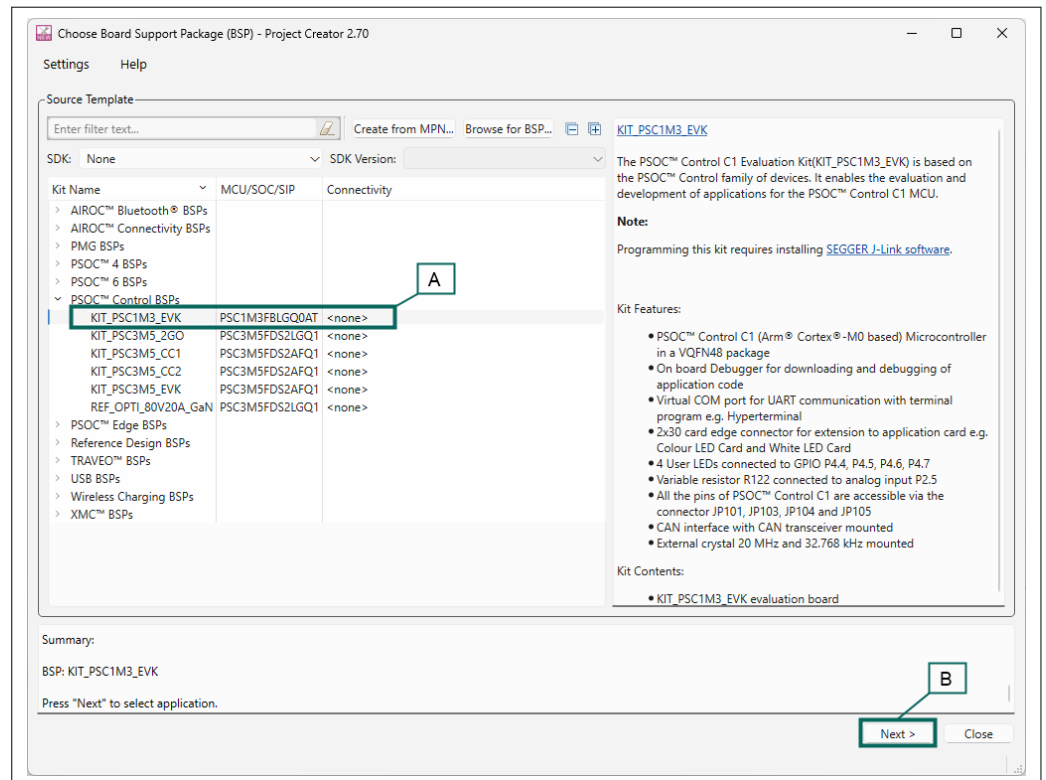

Figure 7 Choose target hardware
- a. In the **Choose Board Support Package (BSP)** dialog, choose the **Kit Name** that you have. The steps that are followed use **KIT_PSC1M3_EVK**, as shown in Figure 7